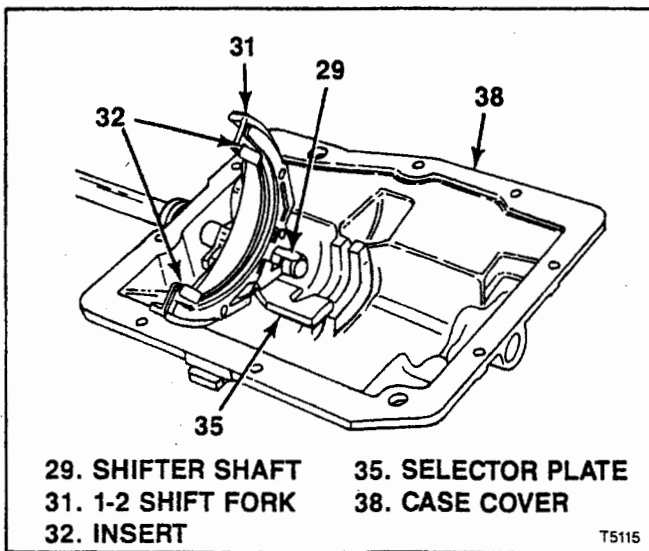

Figure 6-16. Installing T5 WC 1-2 Shift Fork
e. Position 1-2 shift fork (31) (with inserts and selector plate) in case cover (38) and push shifter shaft (29) just through fork. Notch in selector plate should align with semi-circular groove in cover (see figure 6-16).